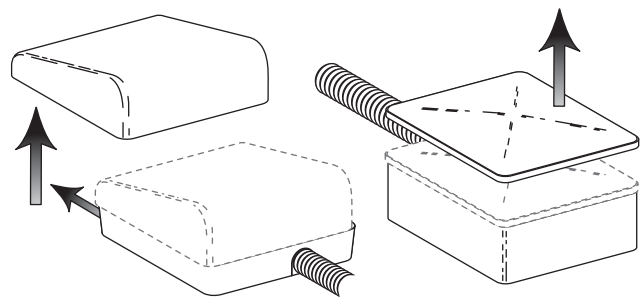

Figure 6
- Remove the floor box cover. The cover on a stainless steel floor box simply lifts off the box. To remove the cover from a contoured floor box, slide the cover forward, then lift it off the floor box base (see Figure 6).